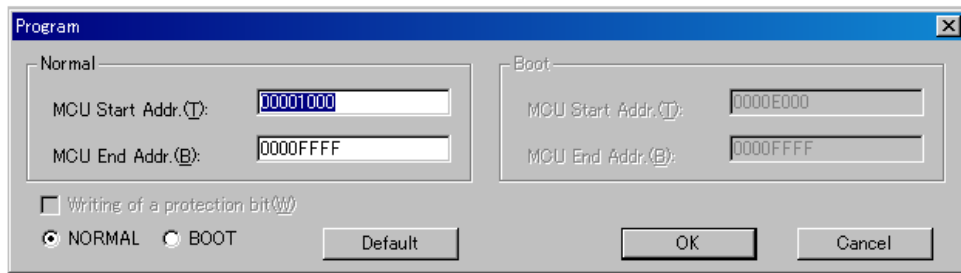

Fig.4.1 Program command Parameter input dialogue
It can choose a domain to write and to read to parameter input dialogue of each device command. Parameter input dialogue of the program command is shown in Fig. 4.1.
* Radio button for domain choice like Fig 4.1 is made for all devices command.